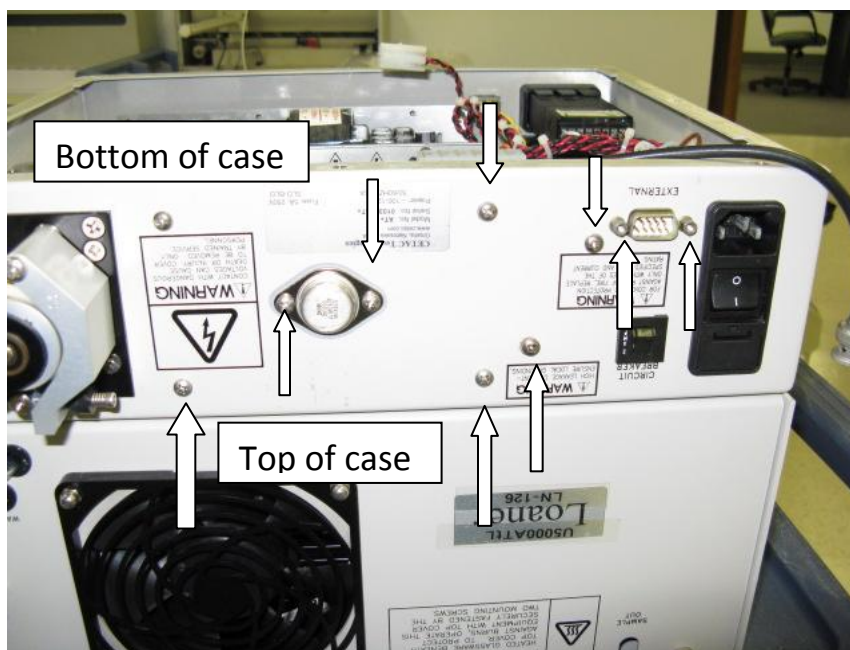

Figure 1-3
6. Now, there are a 9 screws on the back that need to be taken out to get the oscillator, serial connector, MOSFET transistor and the power resistor out. See figure 1-3.